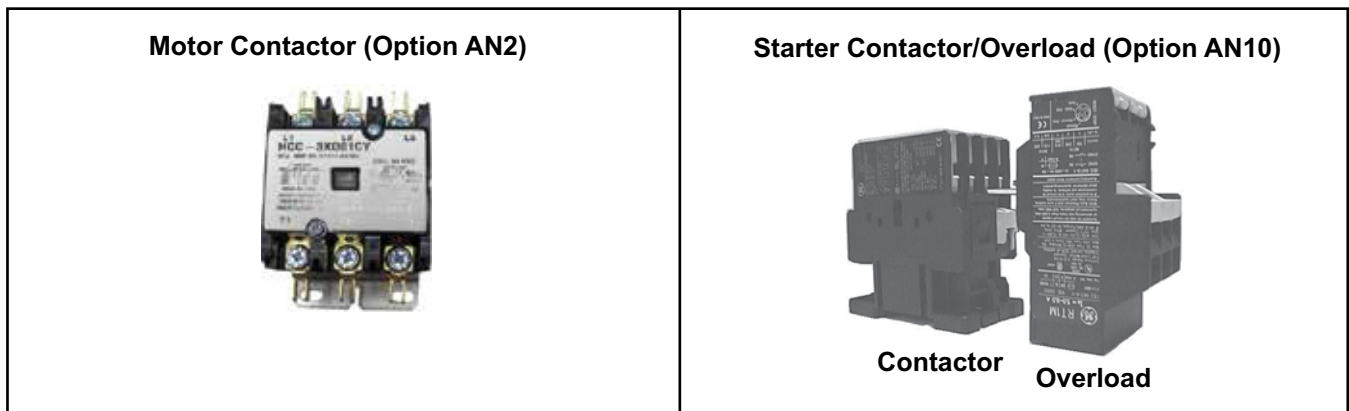

Figure 4. Motor Contactor and Starter Contactor/Overload
- The motor contactor and starter contactor/overload are shown in Figure 4.
- For motors with internal overloads, the standard motor contactor (see Figure 4) is manufacturer's model number HCC-3XQOICY (PN 216386, option AN2).